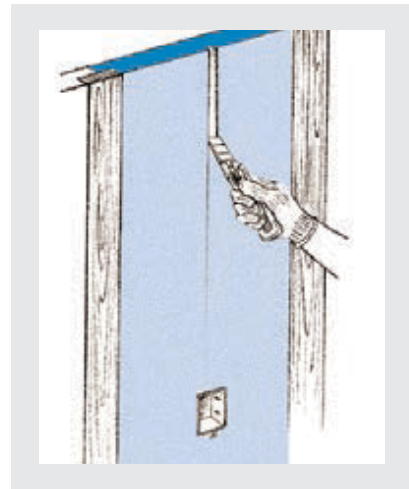

Figure 5
3. To accommodate electrical wires, cut 1/2"-deep channel on the back of the insulation board with utility knife (Figure 5). Use electrical staples to hold wires in place.